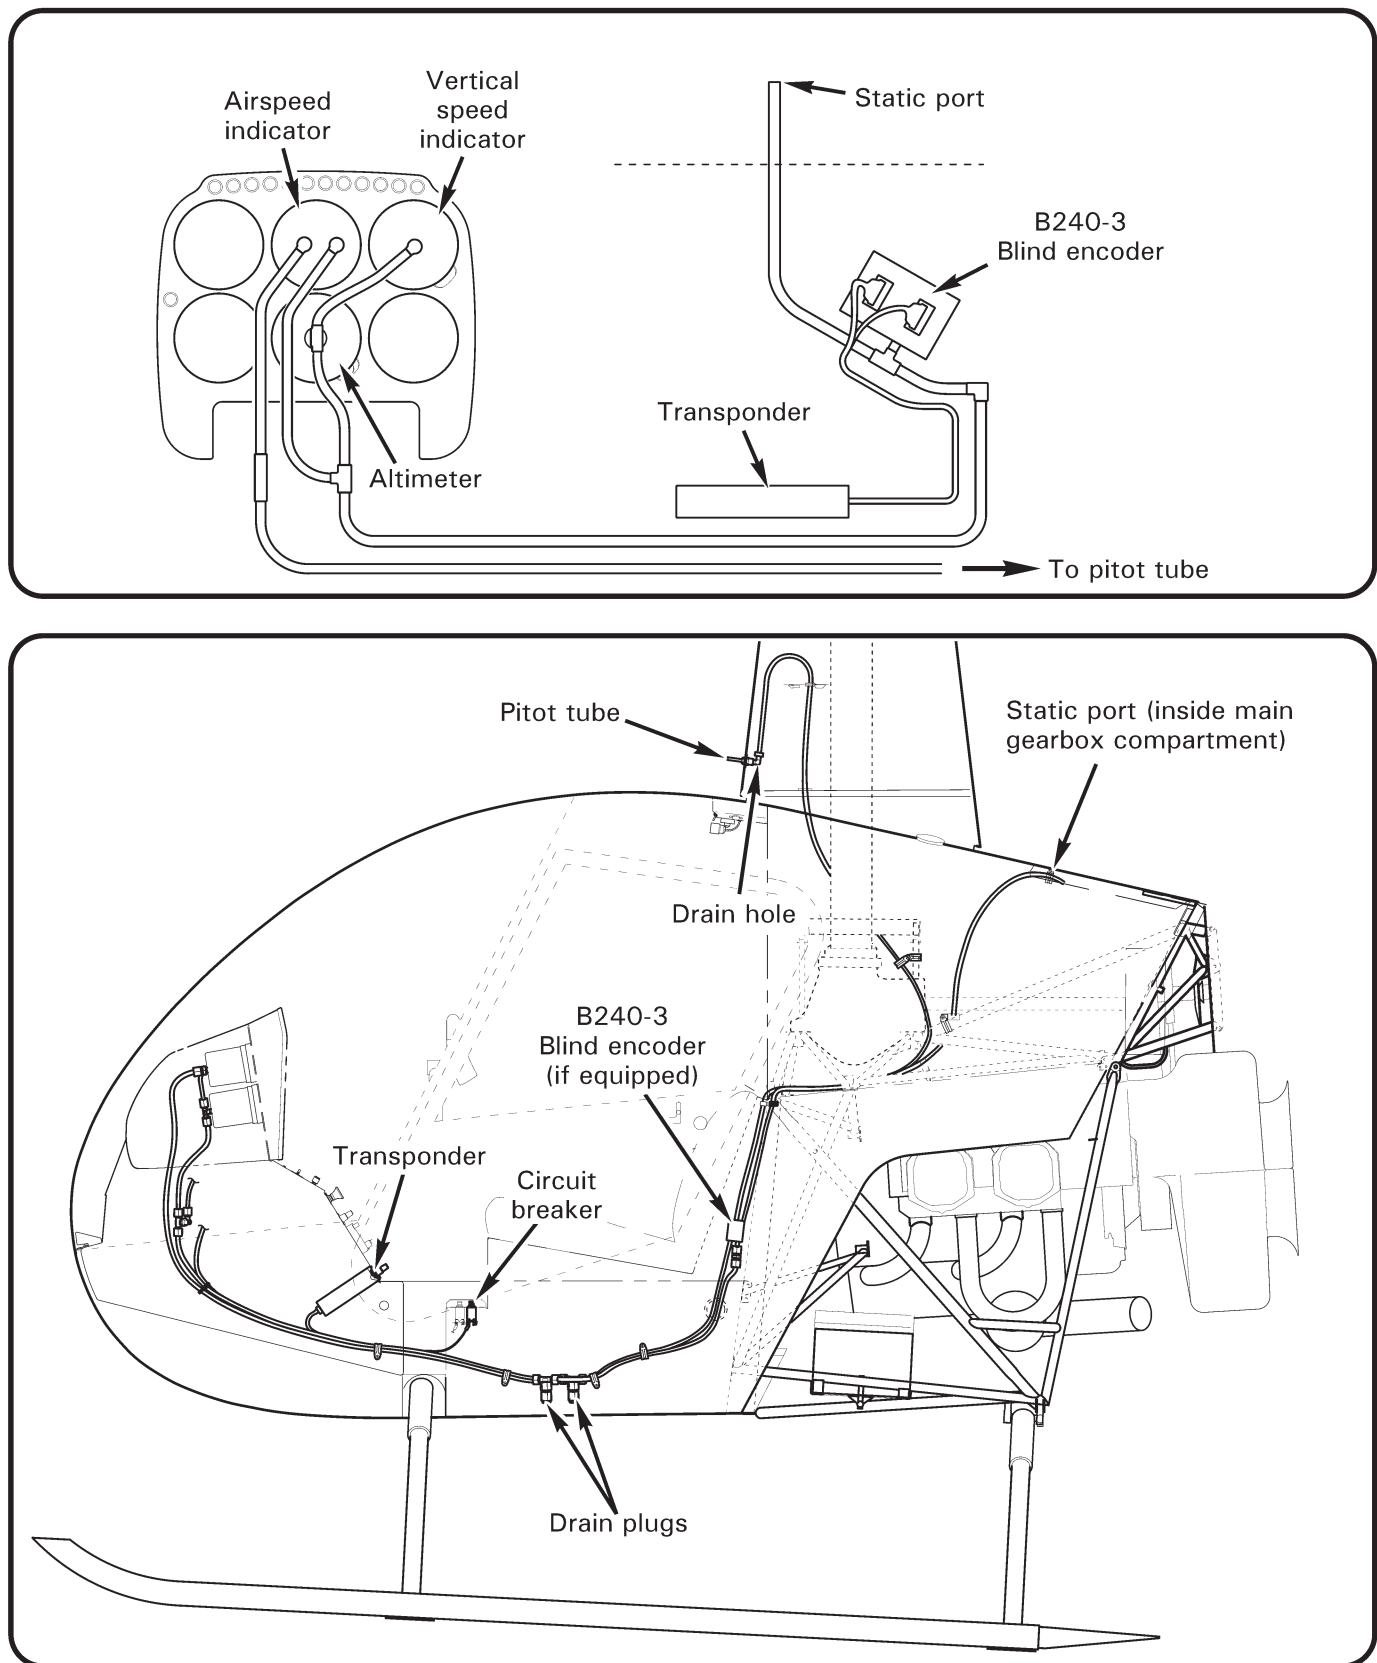

FIGURE 13-1 PITOT-STATIC SYSTEM
2. Refer to Figure 13-1. Seal drain hole in elbow aft of pitot tube with pressure-sensitive tape. Connect a medical syringe, with plunger withdrawn, to pitot tube via flexible tubing.
1. Refer to Figure 13-1. Set altimeter to location elevation.
Refer to Figure 13-1 for pitot-static system diagram.